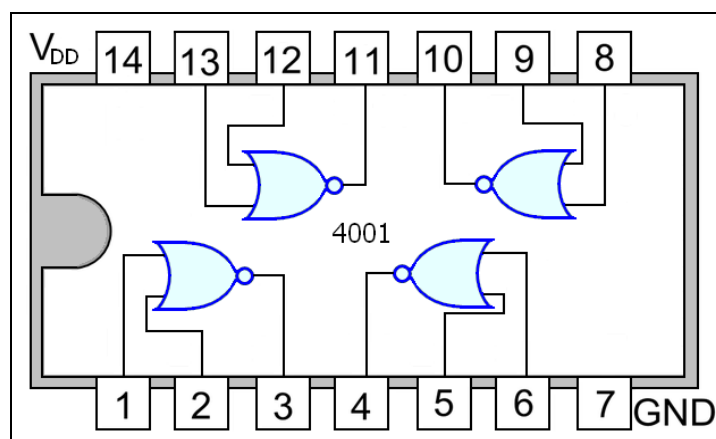

Fig. 2-1 Pin connections for 4001 CMOS IC
1. Mount the 4001 CMOS integrated circuit on the breadboard socket. Be sure that it is seated firmly straddling the notch in the socket and that none of the pins are bent. Connect pin 14 to +5 volts and pin 7 to GND to power supply. Fig. 2-1 shows the pin connections.